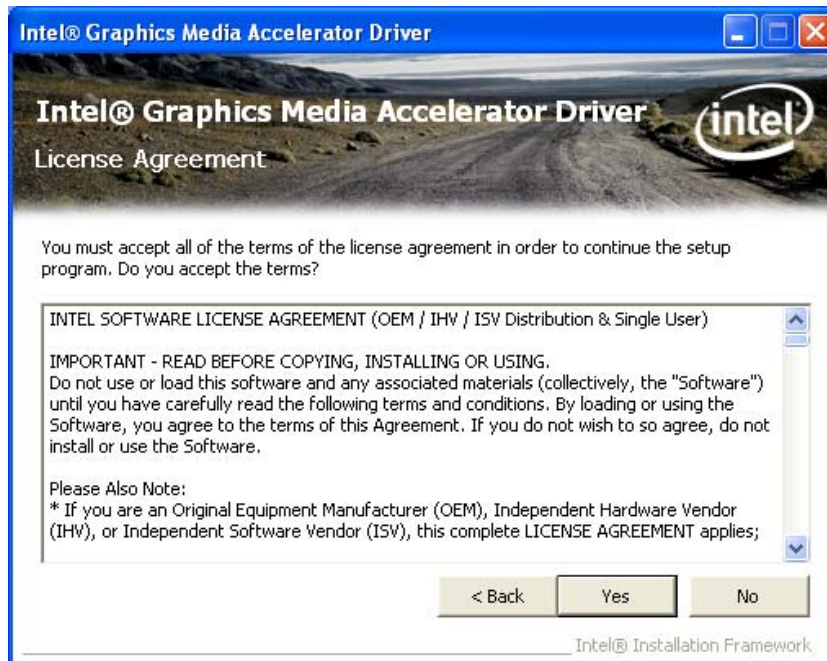

Figure 6-13: VGA Driver License Agreement
- Step 8:** The license agreement in **Figure 6-13** appears.